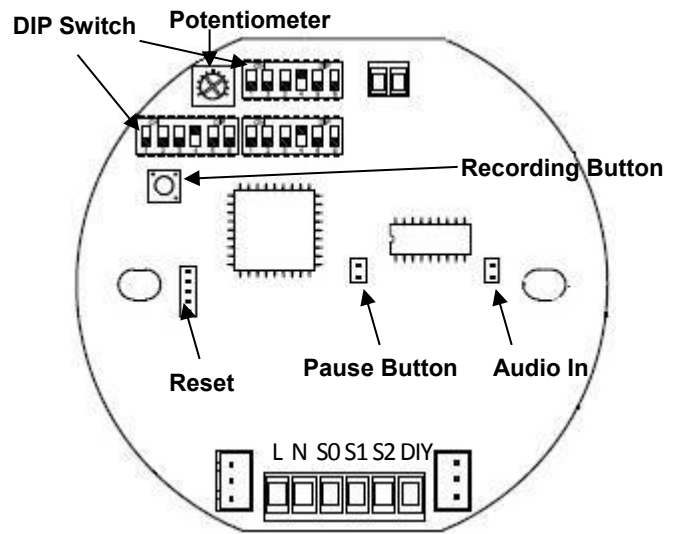

Fig 3
Apply power supply to 12V/24V/36V/48V DC 100-250V AC to 'L' & 'N' (See Fig 3)
Use the three (3) DIP switches with 6 binary codes on the **Sounder PCB** to select tones (See Fig 3).
The sounder has a volume control to adjust the output volume of the sounder component. To set the required output volume, adjust the potentiometer-VR1 on the PCB (See Fig 3). The potentiometer should be set to fully clockwise position if maximum output volume is needed.
The sounder can provide 4 tones can be recorded by the user. Use the Audio In and Recording Button (See Fig 3) to record.
The sound can pause by pressing the Recording Button. (See Fig 3)